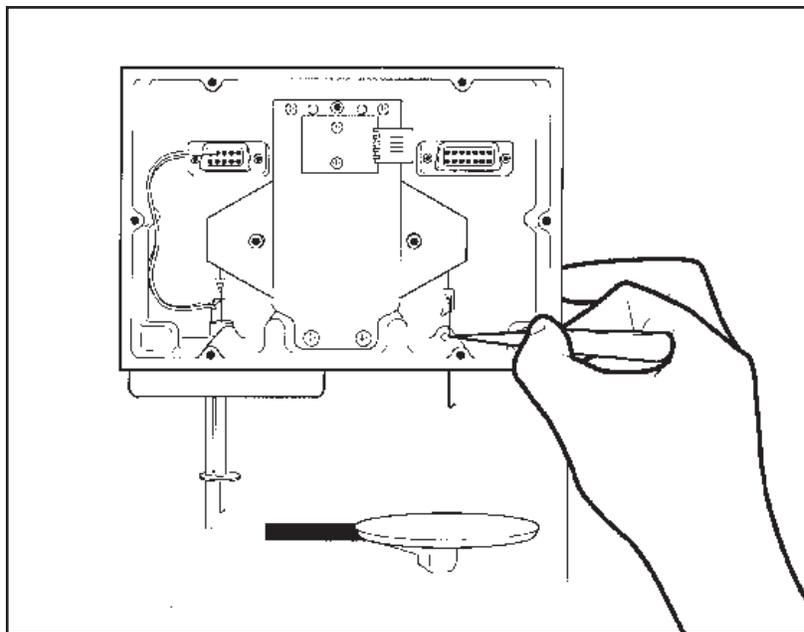

Figure 2.15
11. Using brass tweezers, insert the tare hang-down wire into the balance chamber on the tare side and down through the hole above the tare tube connection, taking care not to bend the wire (Figure 2.15 on next page).